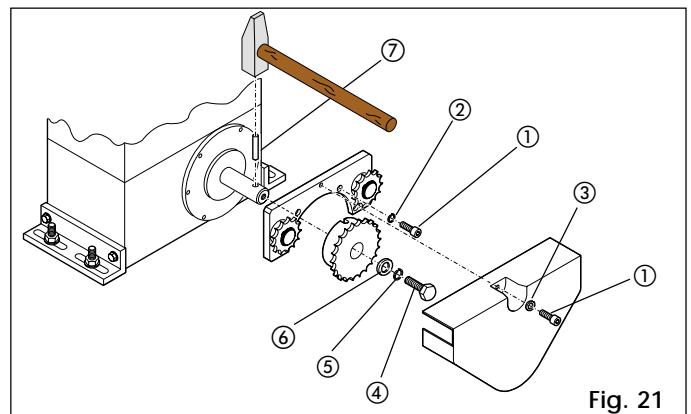
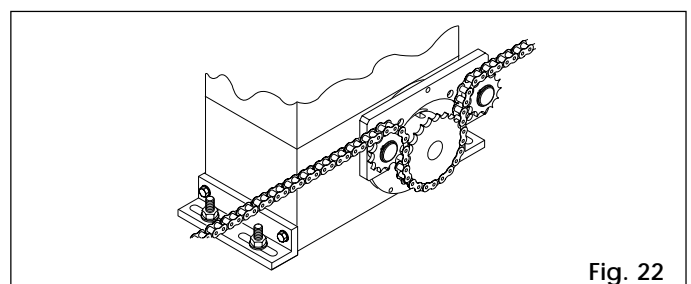

Fig. 21
Fig. 22
4.5.2. MODEL 844MC RF (Figs. 21 - 22)
- Insert spring pin ⑦ in the shaft with the aid of a hammer.
- Fit the chain pinion on the shaft, ensuring that the notch on the pinion coincides with the spring pin; fit screw ④ and washers ⑤ and ⑥ and tighten.
- Fit the idle sprocket carrier plate on the gear motor flange, removing the four upper bolts and replacing them with the 5x12 hex bolts ① and washers ② in the kit as shown in Fig. 21.
- Fit the chain as shown in Fig. 22 and fit the casing with screws ① and washers ③ (Fig. 21).